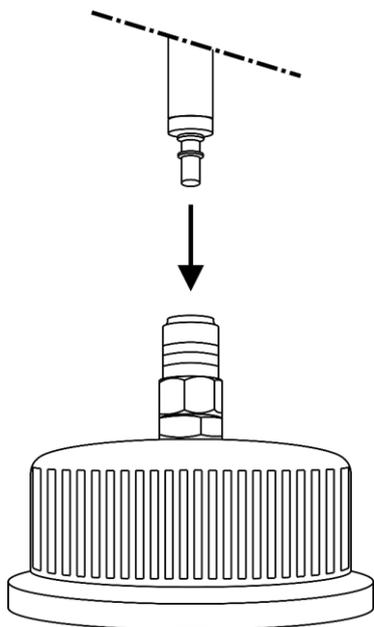

Fig. 06
- 04) Attach the other end of the tank hose to the fog liquid tank cap. See Fig. 06.